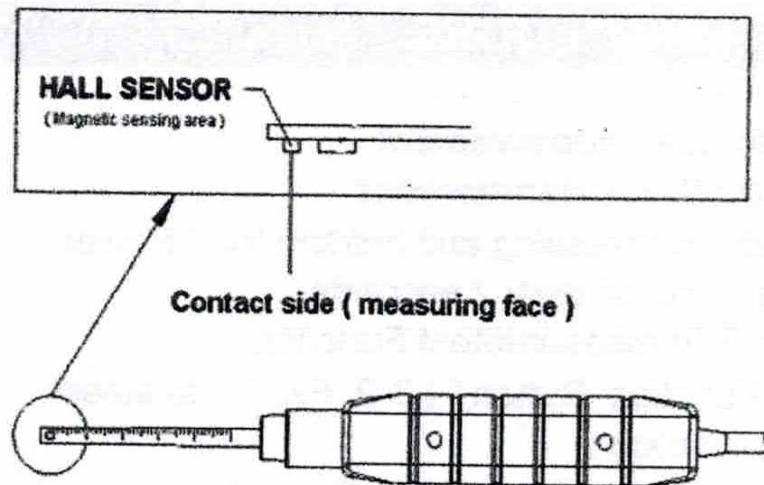

Fig. 3
3. Contact and close the testing material to the probe head (refer Fig. 3, page 8) the display will show the magnetic field value along with the unit (G,mT).